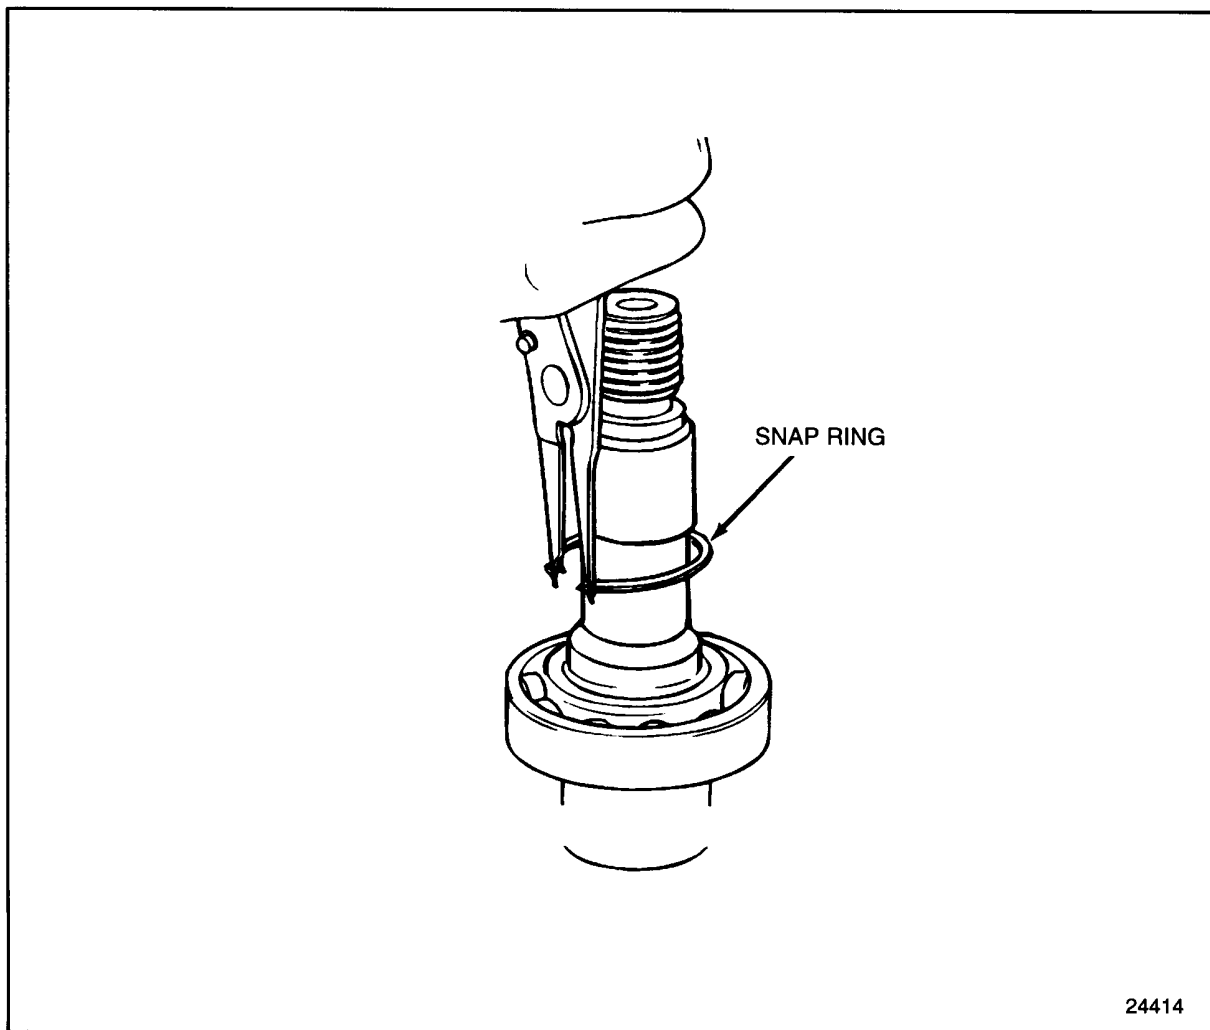

Figure 1-399 Snap Ring Installation
2. Install the snap ring to the accessory driveshaft making sure it is fully seated in the groove a full 360°. See Figure 1-399.